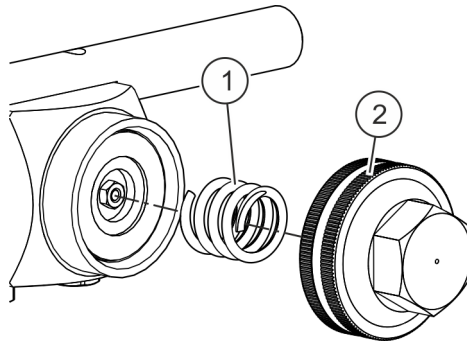

Fig. 20: Valve spring
2. ➔ Unscrew the sealing cap ( Fig. 20/2).
The sealing cap ( Fig. 20/2) is under spring tension.
3. ➔ Remove the pressure spring ( Fig. 20/1).